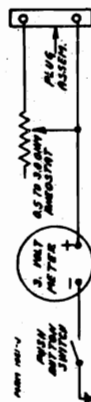

Fig. 5—Schematic Diagram of Voltage Regulator
**3 Volt "A" Battery**—The voltage regulator required with this type of battery as illustrated in Fig. 4 is not supplied with the receiver unless specified. This device consists of a rheostat which controls the voltage, a voltmeter for measuring its value as supplied to the receiver and a small push button switch for cutting the voltmeter in and out of the circuit. It has two prongs at the bottom which plug into the socket in the platform at the rear left corner of the chassis. The circuit diagram of the regulator is shown in Fig. 5.